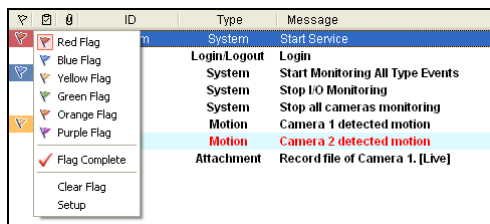

Figure 1-36
1. On the Event List window, select one event, and right-click in the flag column. The flag list appears (Figure 1-36).